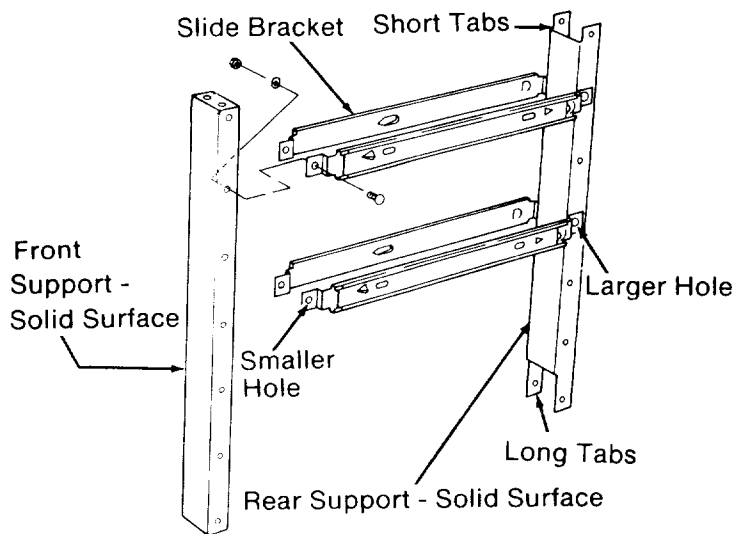

Fig. 41
sure that you attach the larger hole in each *slide bracket* to the *rear support*. Put a lockwasher and hex nut on each bolt and tighten using a 7/16 wrench or socket. (Figure 41)
29. Attach the *front support* to the four *slide brackets* using four truss head bolts. Make sure that the solid surface of the *front support* is facing front. Put a lockwasher and hex nut on each bolt and tighten with a 7/16 inch wrench or socket. (Figure 41)